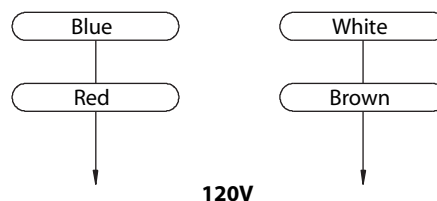

Figure 4 – Wiring Diagram
- Motor and wires are installed as shown in wiring diagram (See Figure 4). Motor is assembled with approved, 3-conductor cord to be used at 120 volts. Motor is prewired at the factory for 120 volts.